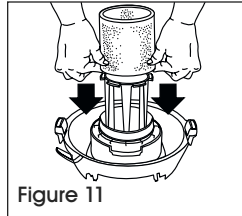

Figure 11
1. With the tank cover in an upside down position, slide the foam sleeve down over the lid cage, pulling until foam sleeve completely covers the lid cage. (See Figure 11)